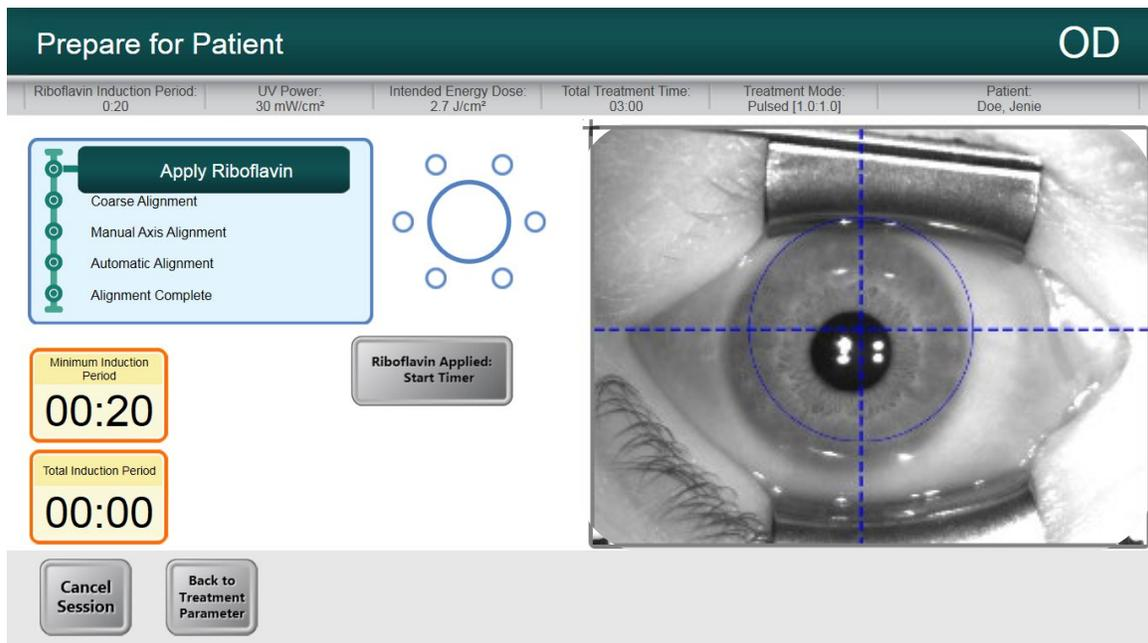

Figure 5-17. Apply Riboflavin & Start Timer Screen
- If using the Mosaic Induction Timer: Select “Riboflavin Applied: Start Timer,” as shown in Figure 5-17.